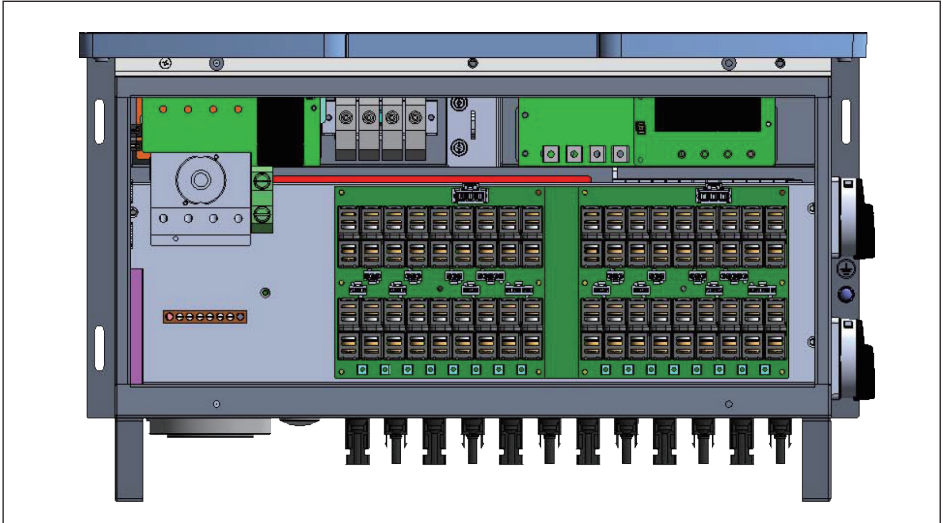
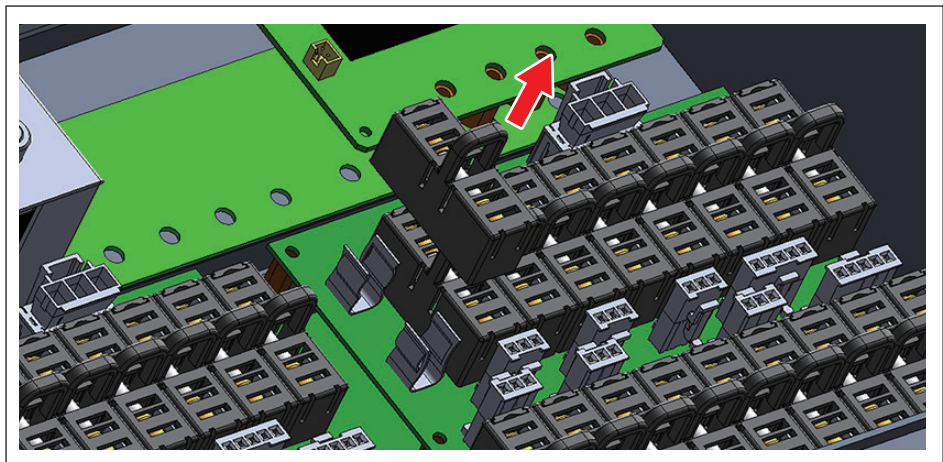

Figure 5-10: Fuse holder locations for M80/60U₋₁₂₂
Figure 5-11: Accessing the individual fuses for M80/60U₋₁₂₂
Figure 5-10 shows the location of the combiner fuse holders, and **Figure 5-11** provides details to remove a fuse from the -122 WB; refer to **Figure 2-5** for additional information.
4. Based on step 1, check the corresponding fuse locations by pulling out the fuse holder (**Figure 5-11**) and checking continuity of the fuse.